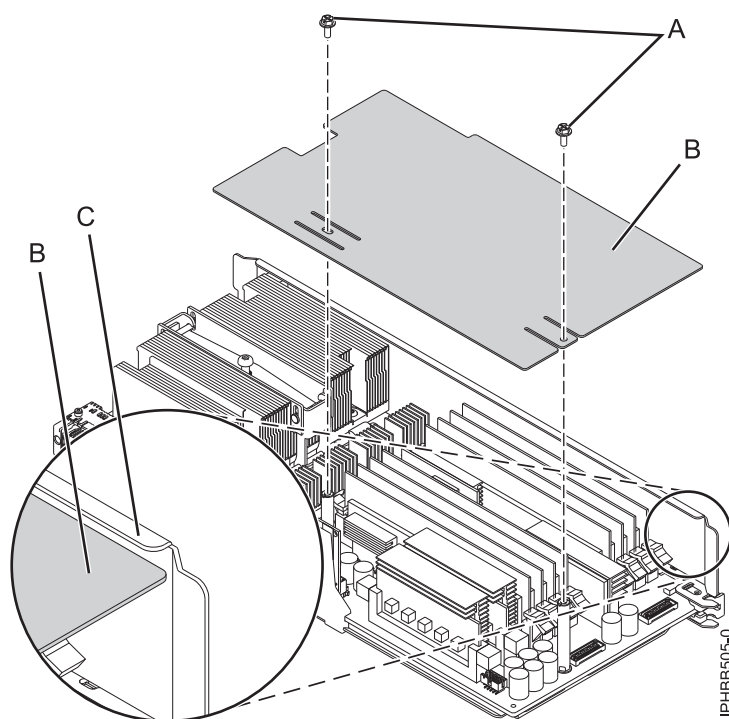

Figure 9. Installing the flat system processor assembly cover
- If you have the flat cover shown in Figure 9, install the cover (B) under the sheet metal flange (C) and tighten the two screws (A).